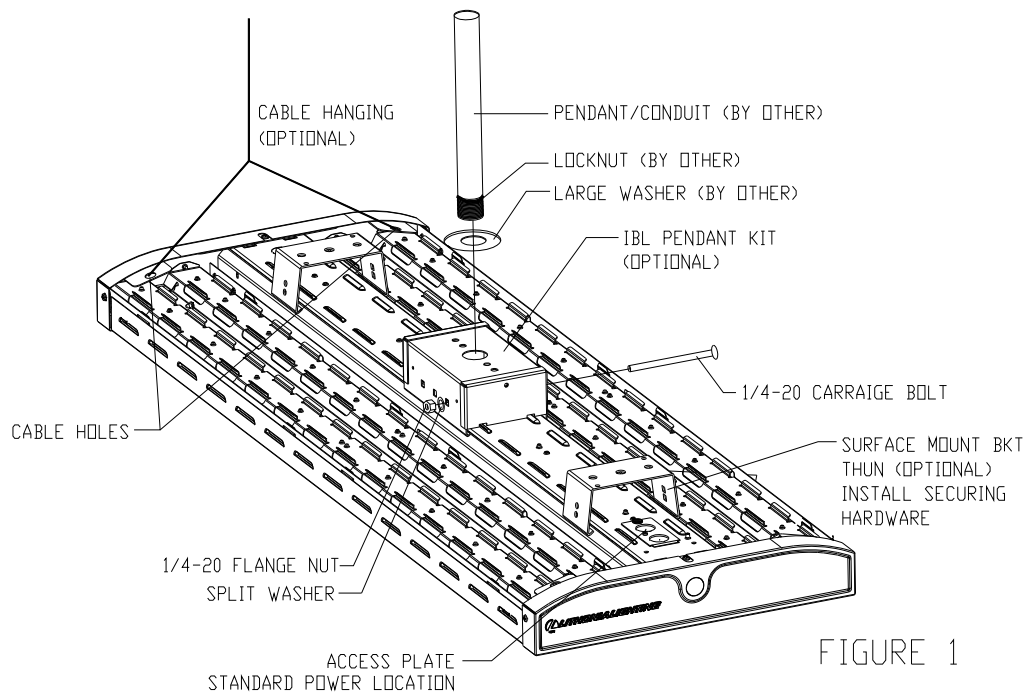

FIGURE 1
- 4) CHAIN/CABLE MOUNT, use the holes on the end of the fixture to mount cable/chain into. Make sure chain/cable is rated for four-times over the hanging load and securely tighten to the LED fixture. SEE FIGURE 1.
- 5) STANDARD PENDANT KIT OPTION, snap the tabs on the pendant kit into slots on the sides of the channel. Use the various slots located on the channel to balance the LED fixture. Use the provided bolt, split washer and flanged nut to secure the bracket to the top of the fixture channel. Install the two bracket end cover plates to the hanging bracket using the two ¼" long screws provided. Use large washers between both inside and outside locknuts of the conduits. SEE FIGURE 1.